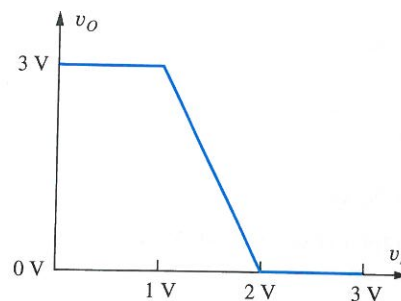

Figure P6.7
- 6.7. The voltage transfer characteristic for an inverter is given in Fig. P6.7. What are V_H , V_L , V_{IH} , V_{IL} ? Plot the voltage gain A_v of the inverter ($A_v = dv_O/dv_I$) as a function of v_I .
- 6.8. Plot a graph of the overall voltage transfer characteristic for two cascaded inverters if each individual inverter has the voltage transfer function defined in Fig. P6.7.